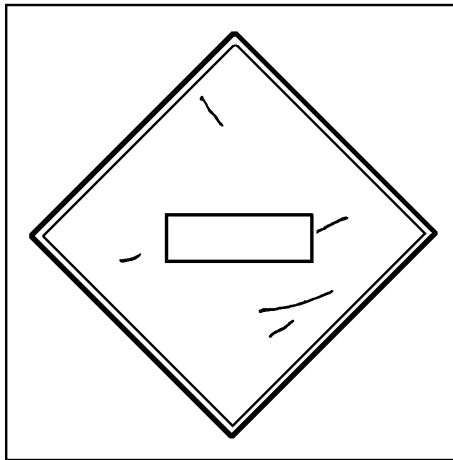

Figure 3-8
- b. Place the tray or instrument pack to be wrapped in the center of the wrapper with the long side of the pack parallel (going from left to right) to you. (See Figure 3-8.)